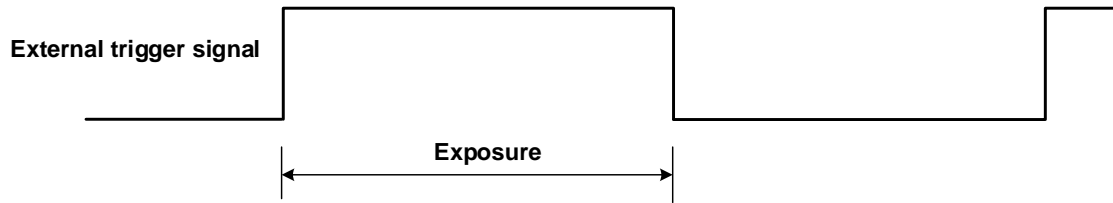

Figure 8-27 The sequence diagram in rising edge trigger of TriggerWidth exposure mode
- If rising edge triggering is enabled, exposure starts when the trigger signal rises and continues until the trigger signal falls, as shown in Figure 8-27